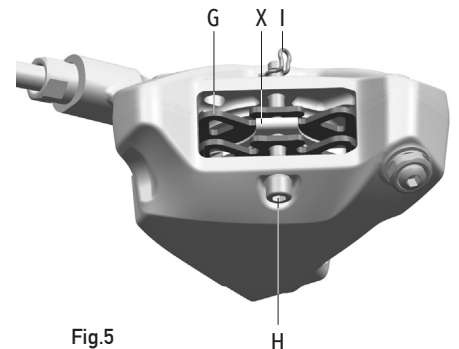

Fig.5
- Pad (G - Fig.5)
- Clip (X - Fig.5)
- Brake pad locking screw (H - Fig.5)
- Brake pad screw cotter pin (I - Fig.5)